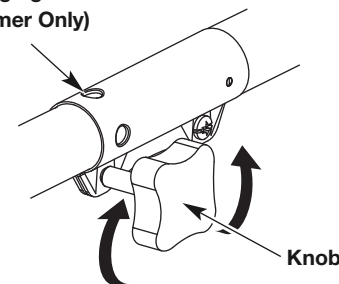
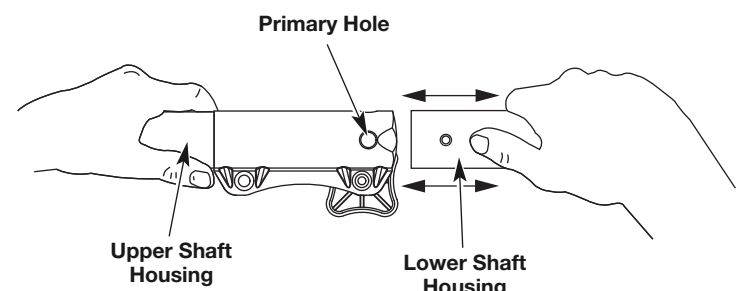

Fig. 3
Fig. 5
1. Turn the knob counterclockwise to loosen (Fig. 3).
2. While firmly holding the attachment, push it straight into the coupler until the release button snaps firmly into the primary hole (Fig. 5).
NOTE: Aligning the release button with the guide recess will help installation (Fig. 5).
3. Turn the knob clockwise to tighten (Fig. 3).
CAUTION: Before operating the unit, make sure the release button is fully snapped into the primary hole (Fig. 5) and the knob (Fig. 3) is securely tightened.
3. While firmly holding the upper shaft housing, pull the attachment straight out of the coupler (Fig. 5).